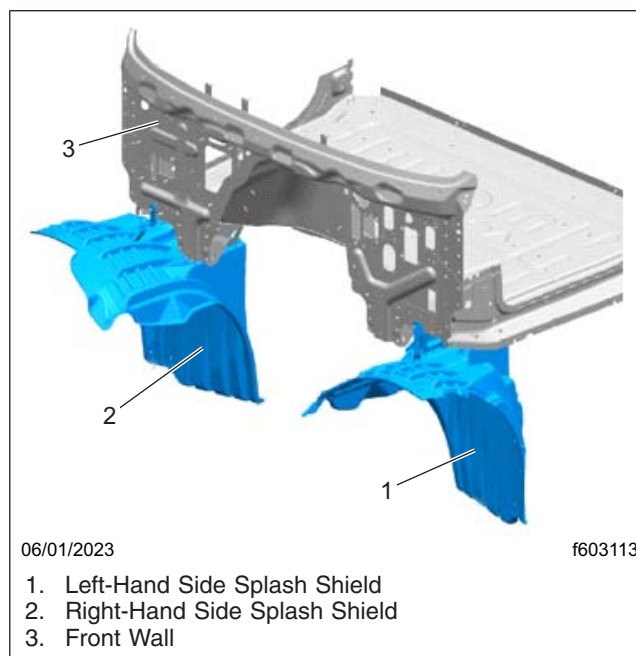

Fig. 1, Cab-Installed Splash Shield
3. Remove the front wheel splash shield. For instructions, see **Section 88.01, Subject 100** of the *New Cascadia Workshop Manual*. **Figure 1** shows the location of cab-installed splash shields.